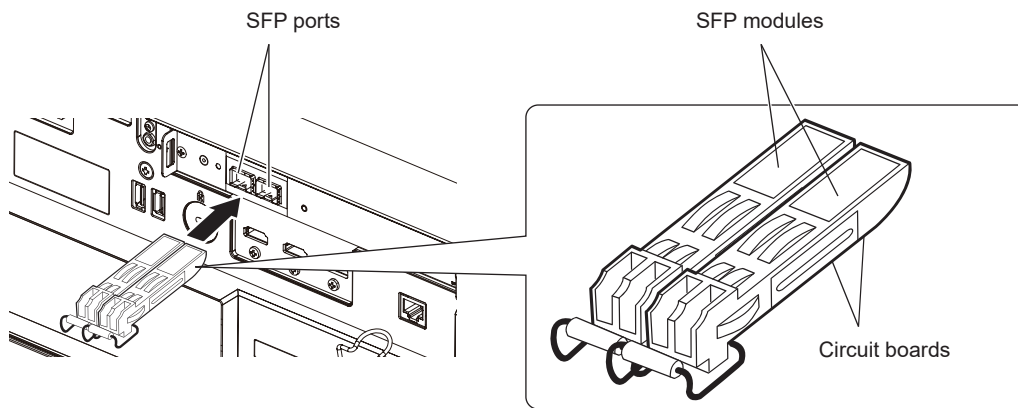

Fig. 1
2) Install the SFP module to the SFP port. (Fig. 1)